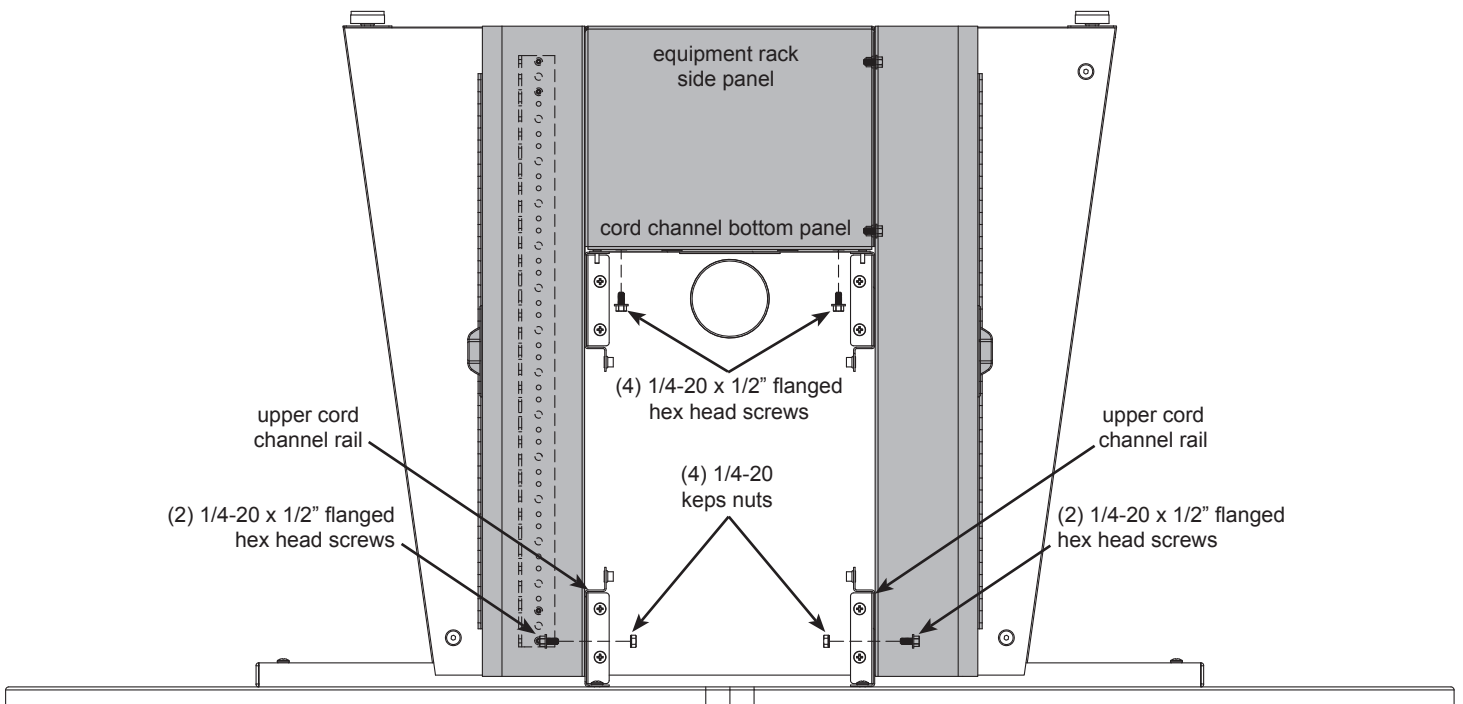

Figure 3B
- B. Open both equipment rack doors. **Figure 3B.**
- D. Attach the equipment rack to each upper cord channel with (2) 1/4-20 x 1/2" flanged hex head screws and 1/4-20 keps nuts. **Figure 3B.**
- E. Install (2) 1/4-20 x 1/2" flanged hex head screws through the cord channel bottom panel into each equipment rack side panel. **Figure 3B.**